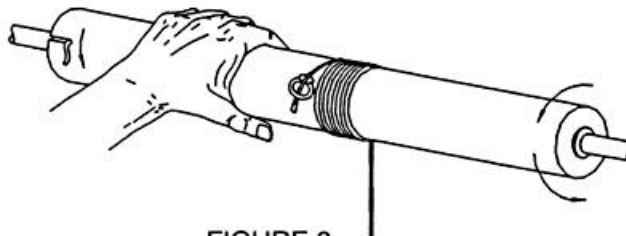

FIGURE 3
2. Unwind counterbalance. The man holding the large movable tube should **SLOWLY** rotate the tube in the direction the free end of the spring hook is pointing, while keeping a firm grip on the tube, until the spring tension is completely released (see Figure 3).